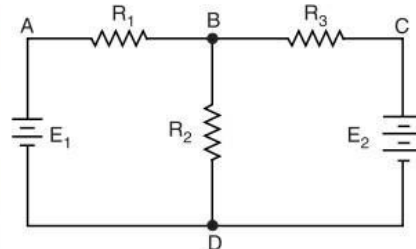

Fig. 3.1
- (iv) **Active element.** An active element is one which supplies electrical energy to the circuit. Thus in Fig. 3.1, E_1 and E_2 are the active elements because they supply energy to the circuit.
- (v) **Passive element.** A passive element is one which receives electrical energy and then either converts it into heat (resistance) or stores in an electric field (capacitance) or magnetic field (inductance). In Fig. 3.1, there are three passive elements, namely R_1 , R_2 and R_3 . These passive elements (*i.e.* resistances in this case) receive energy from the active elements (*i.e.* E_1 and E_2) and convert it into heat.
- (vi) **Node.** A node of a network is an equipotential surface at which *two or more* circuit elements are joined. Thus in Fig. 3.1, circuit elements R_1 and E_1 are joined at A and hence A is the node. Similarly, B , C and D are nodes.
- (vii) **Junction.** A junction is that point in a network where *three or more* circuit elements are joined. In Fig. 3.1, there are only two junction points *viz.* B and D . That B is a junction is clear from the fact that three circuit elements R_1 , R_2 and R_3 are joined at it. Similarly, point D is a junction because it joins three circuit elements R_2 , E_1 and E_2 .
- (viii) **Branch.** A branch is that part of a network which lies between two junction points. Thus referring to Fig. 3.1, there are a total of three branches *viz.* BAD , BCD and BD . The branch BAD consists of R_1 and E_1 ; the branch BCD consists of R_3 and E_2 and branch BD merely consists of R_2 .
- (ix) **Loop.** A loop is any closed path of a network. Thus in Fig. 3.1, $ABDA$, $BCDB$ and $ABCD$ are the loops.
- (x) **Mesh.** A mesh is the most elementary form of a loop and cannot be further divided into other loops. In Fig. 3.1, both loops $ABDA$ and $BCDB$ qualify as meshes because they cannot be further divided into other loops. However, the loop $ABCD$ cannot be called a mesh because it encloses two loops $ABDA$ and $BCDB$.
- (xii) **Parameters.** The various elements of an electric circuit like resistance (R), inductance (L) and capacitance (C) are called parameters of the circuit. These parameters may be lumped or distributed.